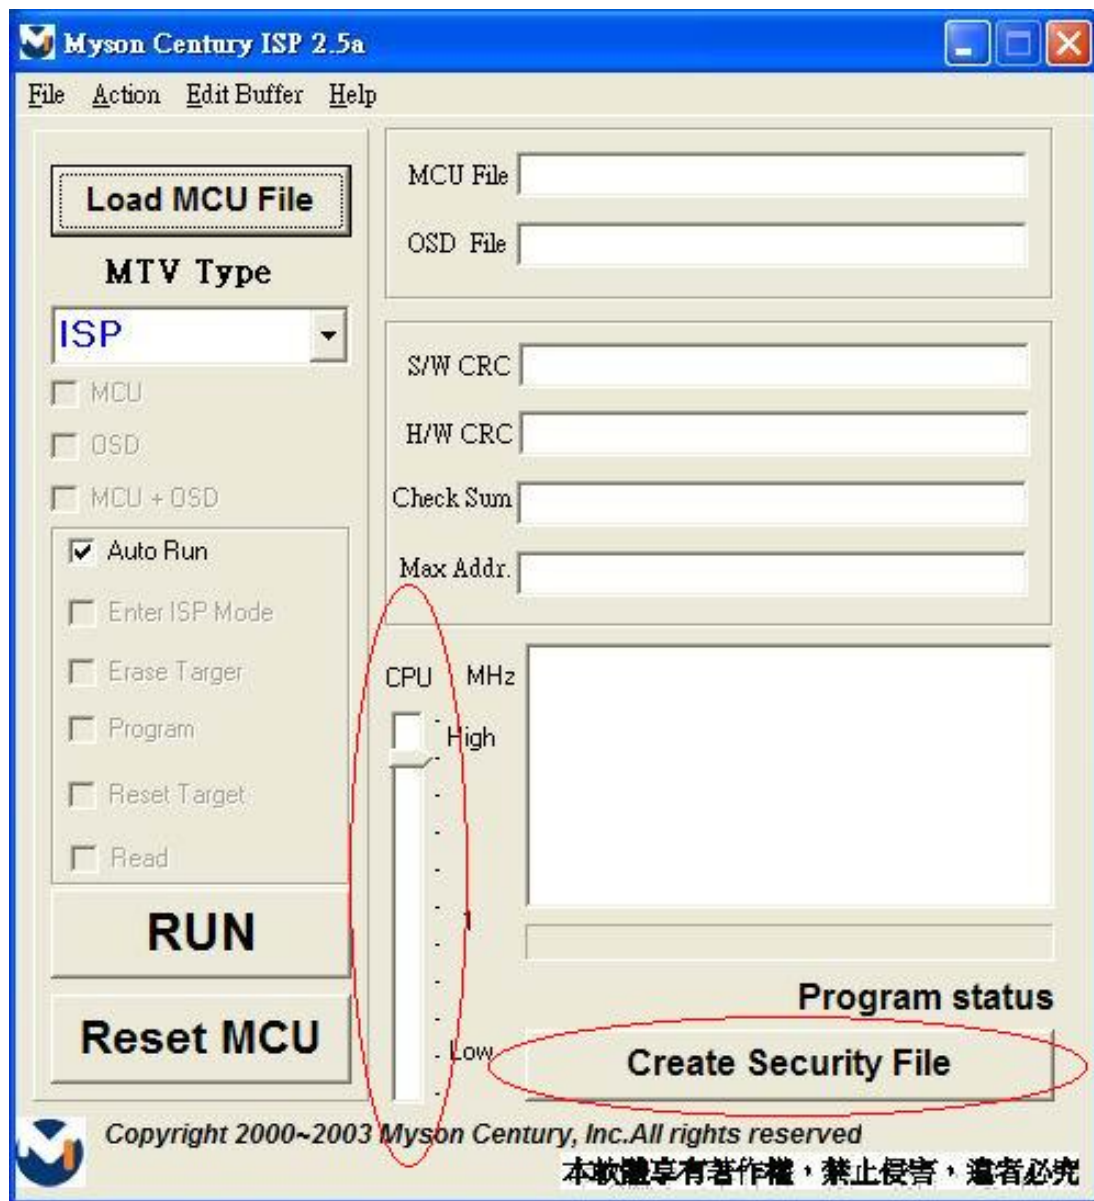

Fig. 2.5
5. Fig 2.5 shows the setting for security code of software ISP . it needs 2 command No. and key in command sequentially for 7C , 4C , 77. The command No. and command must be set by user while coding. About the detailed of setting , please refer to section 6 boot code of ISP .